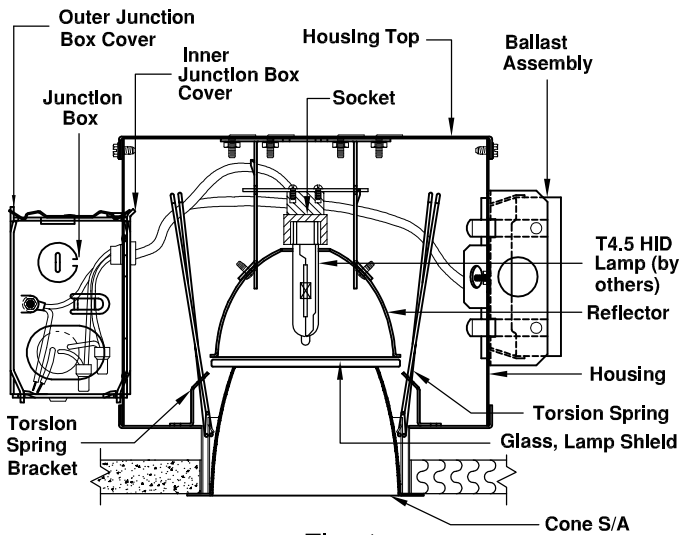

Fig. 1
**Access to Junction Box:** Remove cone assembly, remove lamp, loosen screws on reflector, remove reflector, remove inner junction box cover. (See Fig. 1)